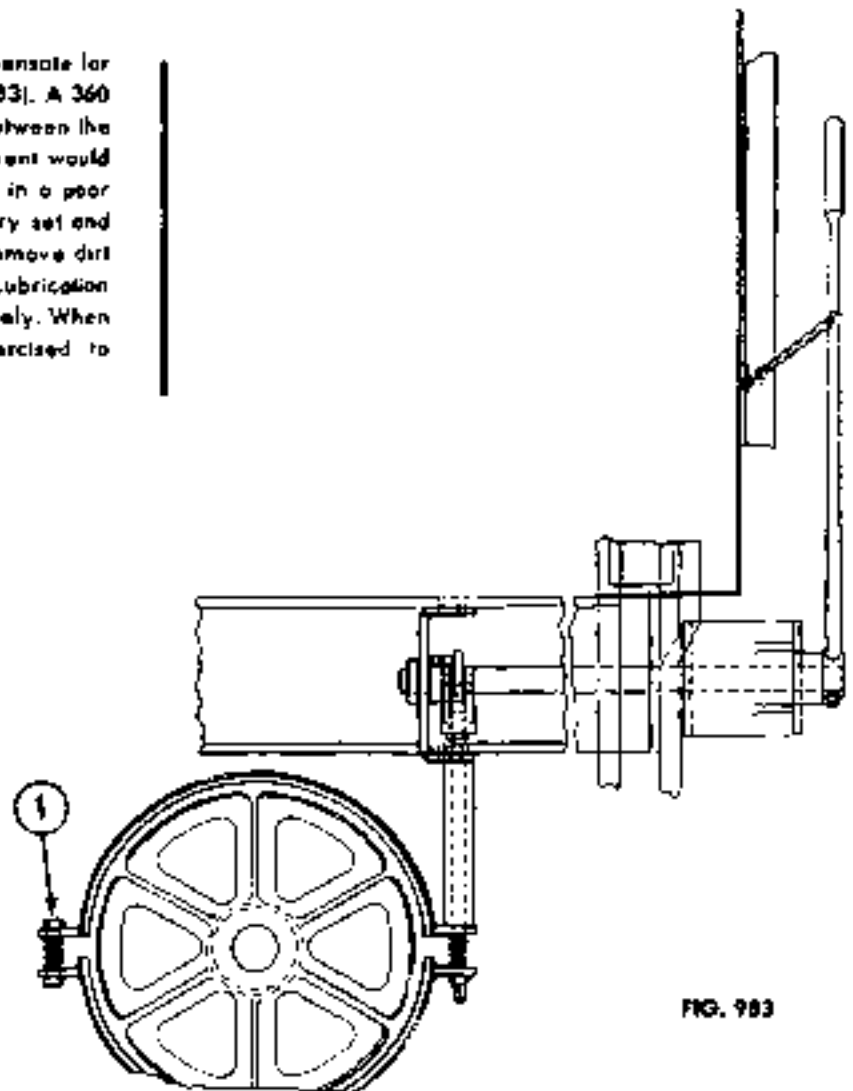

FIG. 983
Only one adjustment is necessary to compensate for brake lining wear, tighten nut (1), (Figure 983). A 360 degree clearance of 0.30" should be held between the brake drum and lining. Too close of an adjustment would cause the brake to heat which would result in a poor operating auxiliary brake. All linkage is factory set and should never need adjusting. Periodically remove dirt shield and check operation of brake band. Lubrication always makes operating linkage work more freely. When lubrication is necessary, care should be exercised to avoid lubricant from getting on brake bands.